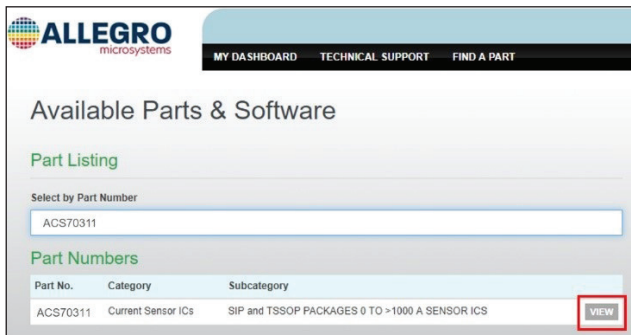

Figure 5: View Button Located Next to Desired Search Result
- Click the view button located next to the ACS70311 search result, as shown outlined in Figure 5.